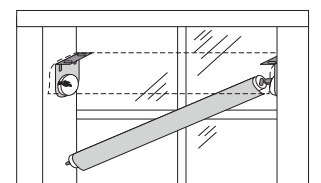

Fig. 6
- a. First insert the Clutch Plug into the Crank Unit (fig. 6).